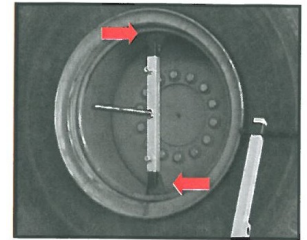

FIGURE 1
1. Place bottom cross bar, the bar with the two black ends as seen in **Figure 1**, inside of the wheel at twelve and six o'clock position. Make sure the gripping plates are tight against the inner bevel of the wheel, adjust by loosening set bolts and sliding out until the tighten set bolts, adjust bottom gripping plate and then top, making sure it is centered as possible.